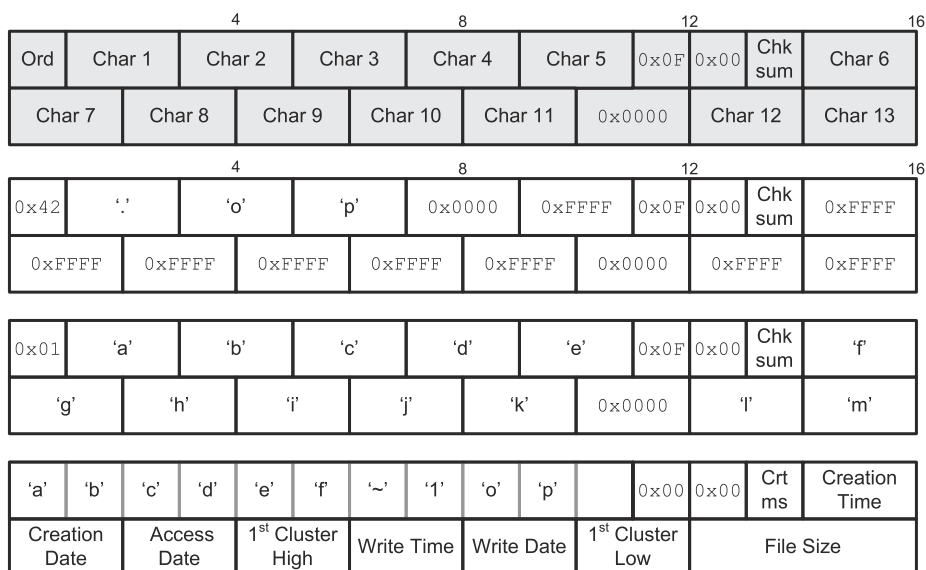

Figure 10-4 LFN directory entry
To allow FAT to support long file names, Microsoft devised the LFN directory entry, as shown in Figure 10-4.
A file with an LFN also has a SFN this is derived from the LFN. The last block of an LFN stores the SFN that corresponds to the LFN. The two or more preceding blocks each store parts of the LFN. Figure 10-4 shows four “blocks”
- If three entries are needed to store the long file name, byte 0 of the entries carry *order numbers* of **0x43**, **0x02** and **0x01**, respectively. (Byte 0 is labelled “**Ord**” in Figure 10-4). None of these, are valid characters (which allows backward compatibility).
- If two entries are needed (as in Figure 10-4), byte 0 of the entries carry order numbers of **0x43** and **0x01**, respectively.